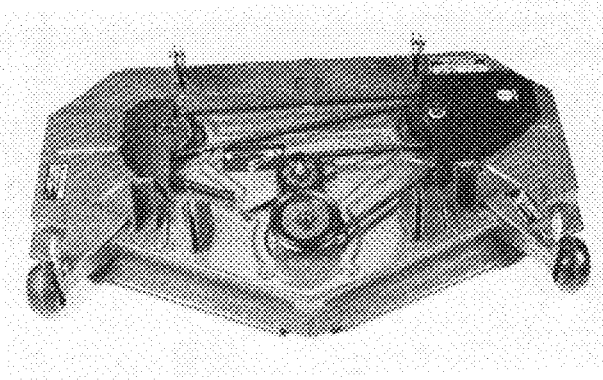

Figure 19
5. Install new belt around spindle pulleys and idler pulley (Fig. 19).